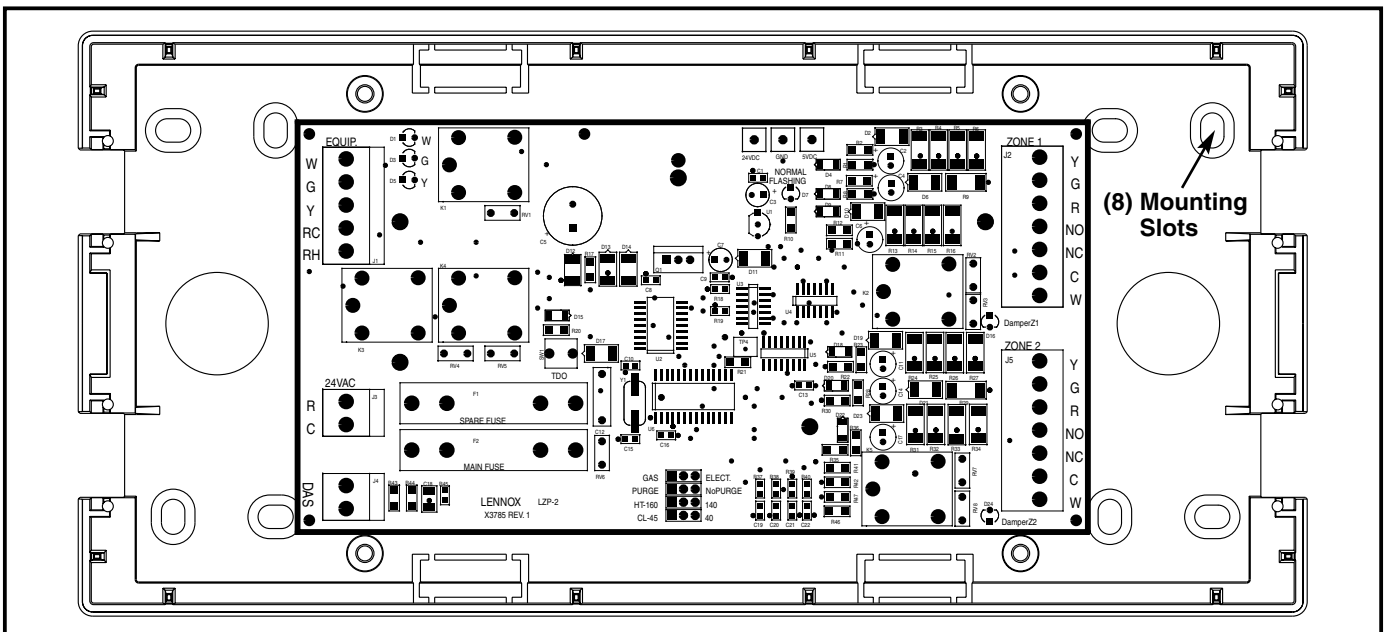

FIGURE 2 – CONTROL PANEL AND ENCLOSURE BASE
2. There are eight slots on the base of the enclosure (see Figure 2).